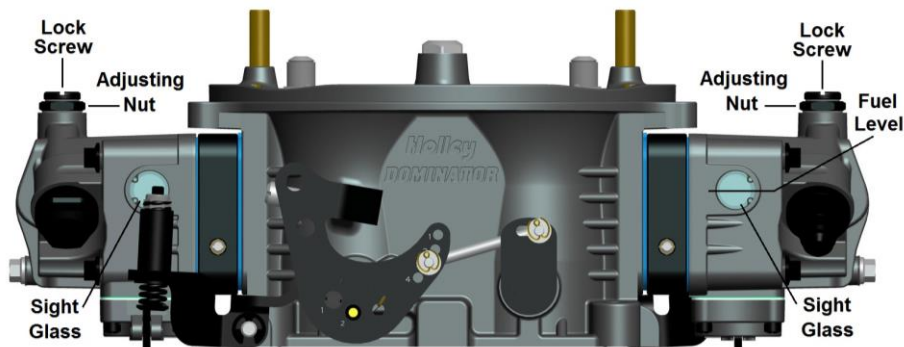

Figure 1
2. The fuel level in the clear sight glass should be mid-level to slightly below center for correct float adjustment. Depending on the type of fuel used, float level may or may not need to be adjusted. See Figure 1 and 1a. The level should be checked at 2-3 psi fuel pressure.